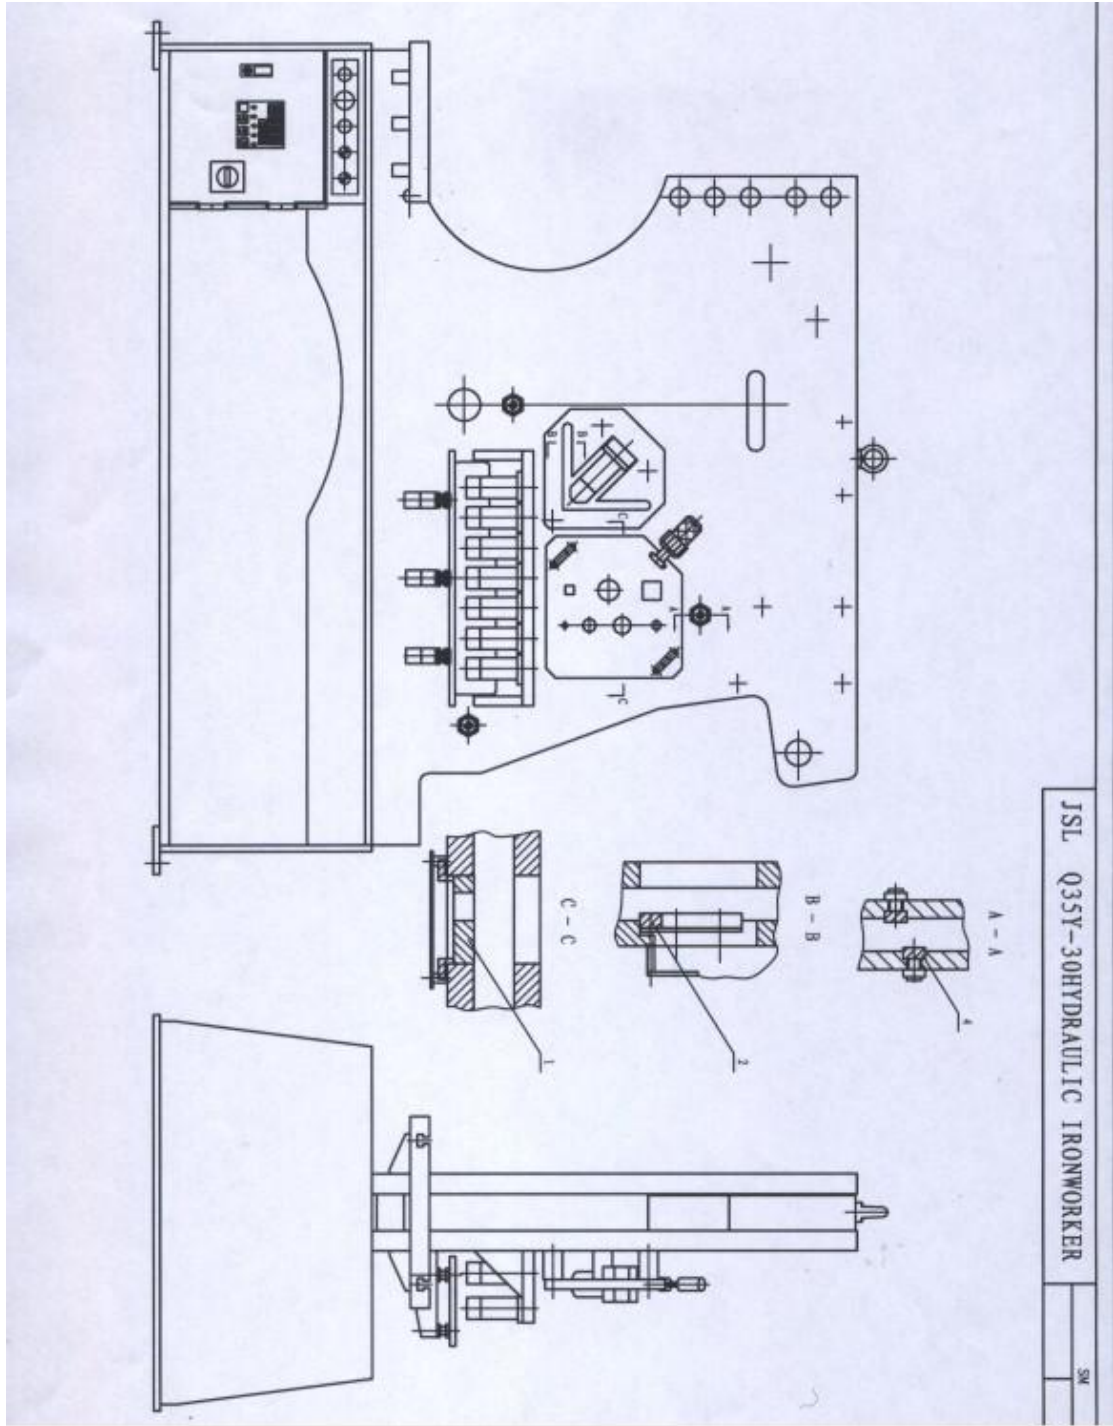

Fig.1
1) The bed can be seen in fig.1